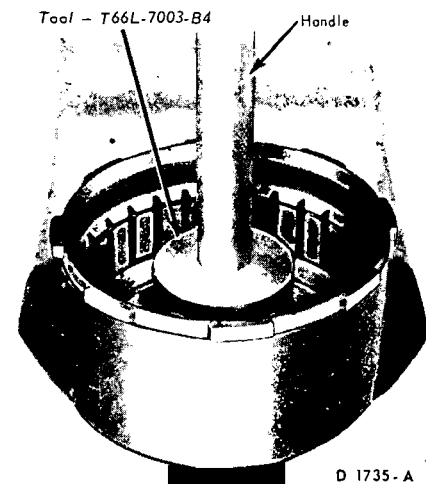

FIG. 85—Installing Reverse-High Clutch Bushing
8. Position the drum in a press, and press a new bushing into the drum with the handle and tool shown in Fig. 85.